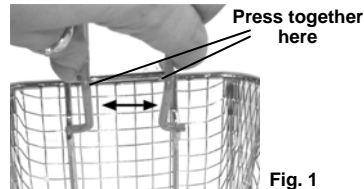

Fig. 1
1. Insert the metal part of the handle into the metal bracket on the frying basket. (Fig. 1)